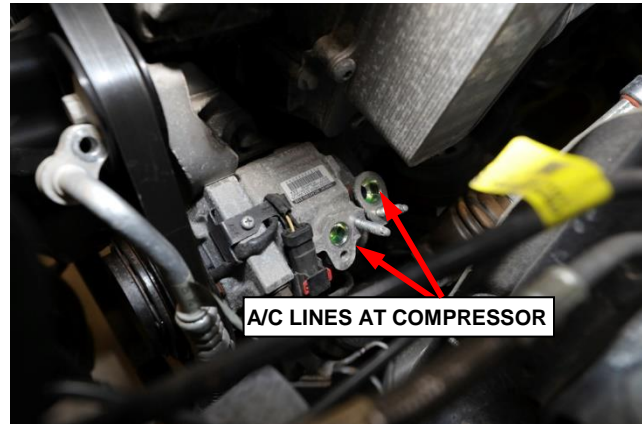

Figure 13 – A/C Lines at Compressor
31. Remove the nuts and disconnect the A/C suction line and A/C discharge line to the A/C compressor (Figure 13).